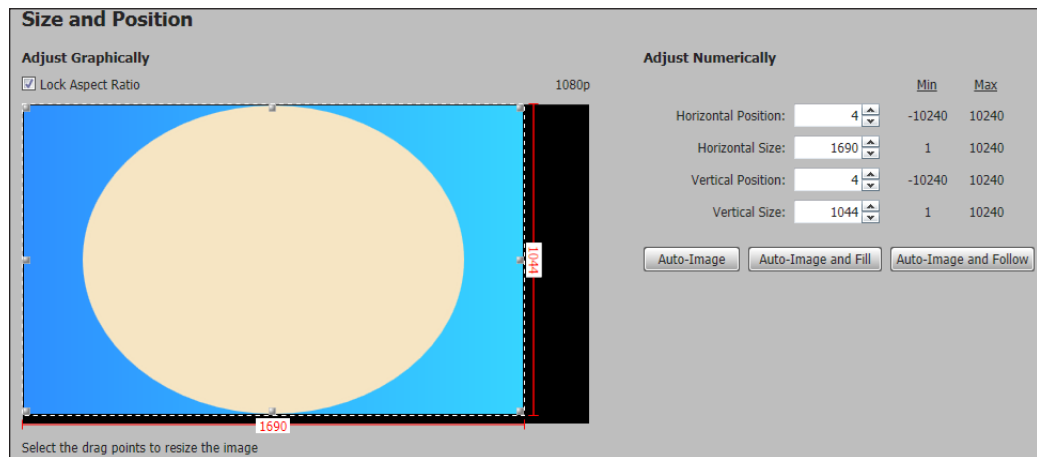

Figure 54. Size and Position Page
1. Click and drag the drag points of the sample image to resize the image within the designated space (defined by the black area in figure 54).
2. Click anywhere inside the sample image (see the blue rectangle with a circle inside in figure 54) and drag it anywhere within the designated space to reposition the image.